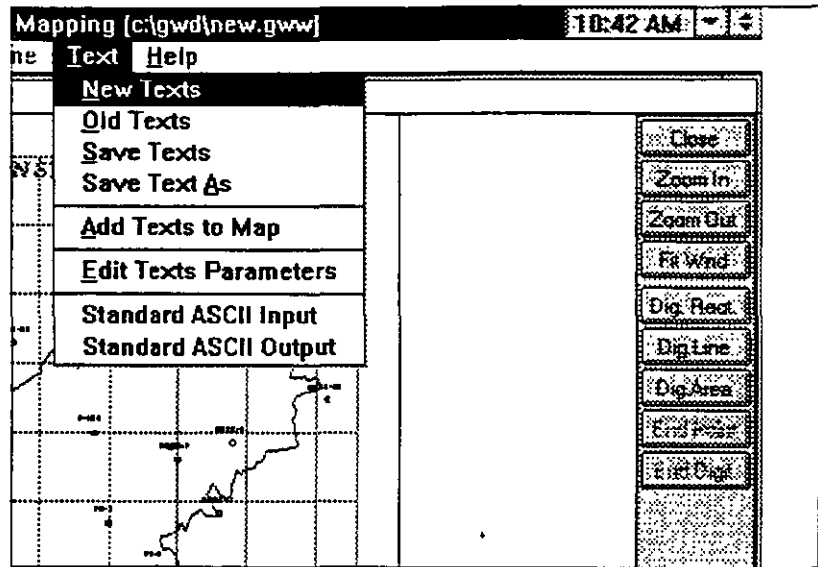

Figure 5-28
11. A text file with the text to appear on a map can also be saved as an ASCII file, Figure 5-28. The